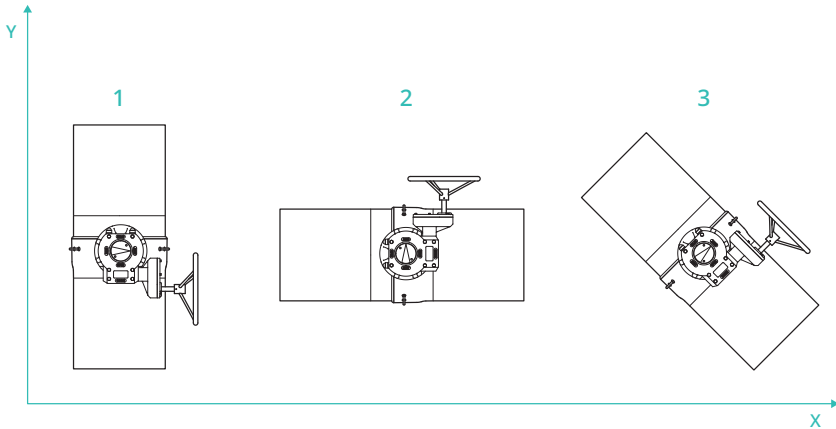

Figure 12. Possible installation positions of the valve
Valve can be installed in a vertical (see figure 12, section 1), horizontal (2) or diagonal (3) pipeline.